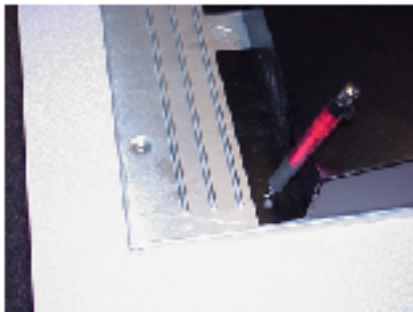
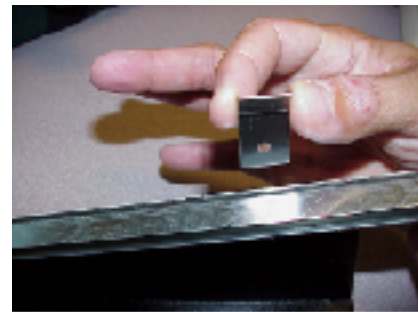
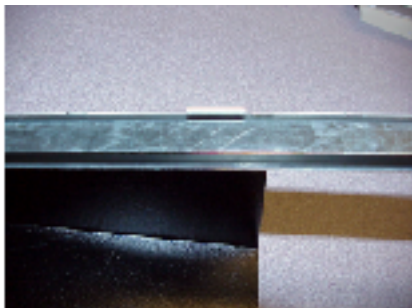

FIG. 2
FIG. 3
FIG. 4
2. Align sides of shield with sides of door. Holding shield in place, mark centers of 2 holes near the line drawn in Step 1. See Fig. 2.
3. Place shield aside. Drill (2) 5/32" holes.
6. On inside of door, hook clips on side of door to outer skin. See Fig. 3 and Fig.4.